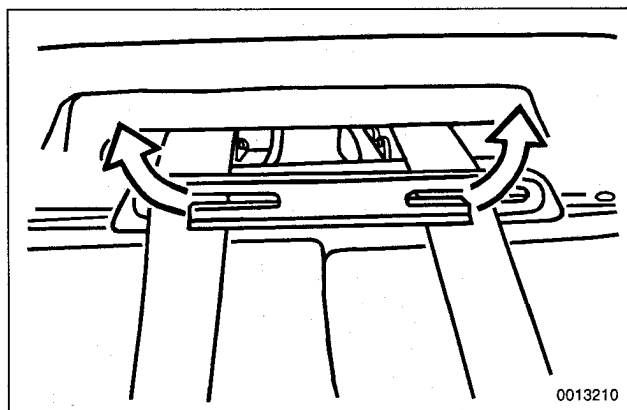

Fig. 8. Remove rear shoulder belt reel trim cover from rear window shelf. Unclip plastic, then slide off shoulder belts as shown by arrows.
2. Remove plastic trim cover over shoulder belt reels from rear window shelf. See Fig. 8.